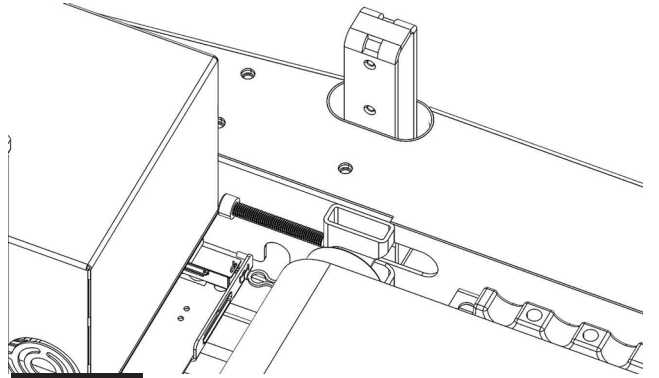

FIGURE 7
9. Remove M10 screw from front roller, see fig: 7